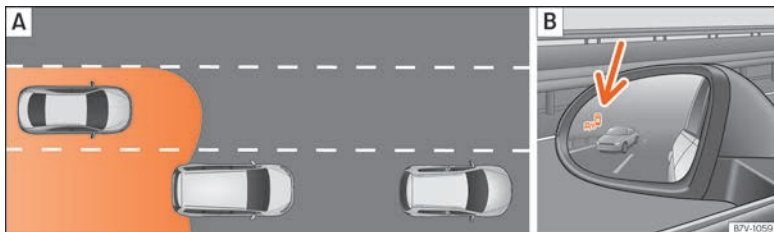

Fig. 273 Schematic diagram: **A** | Passing situation with traffic behind the vehicle. **B** | Indication from the blind spot detector in the left-hand external mirror.
In the following situations, an indication will be displayed in the external mirror »»» **Fig. 273 B** (arrow) or »»» **Fig. 274 B** (arrow):
- When being passed by another vehicle »»» **Fig. 273 A**.